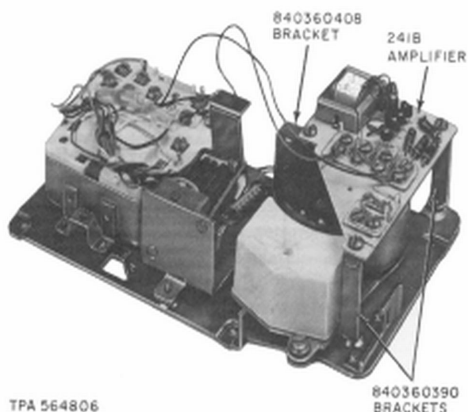

Fig. 7—Installation of D-180409 Kit of Parts
(1) Install the three 241B amplifier mounting brackets at location shown in Fig. 7, using screws furnished with kit of parts.
(2) Mount amplifier to brackets with screws furnished in kit of parts.